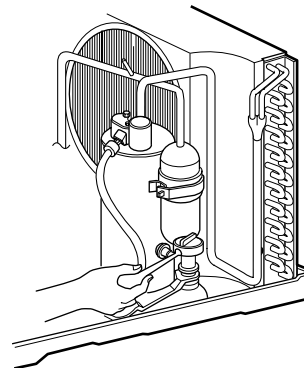

Figure 20
6. Remove the compressor. (See Figure 20)